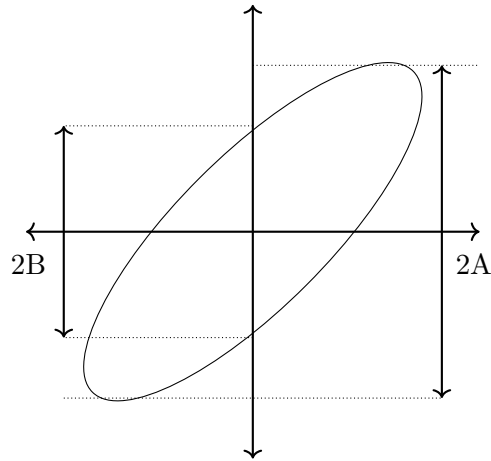

Figure 4.2: Phase diagram.
4. Now, you would observe an ELLIPSE on the screen. Adjust the position of the ellipse such that it is properly centered in the screen as shown in figure 4.2.